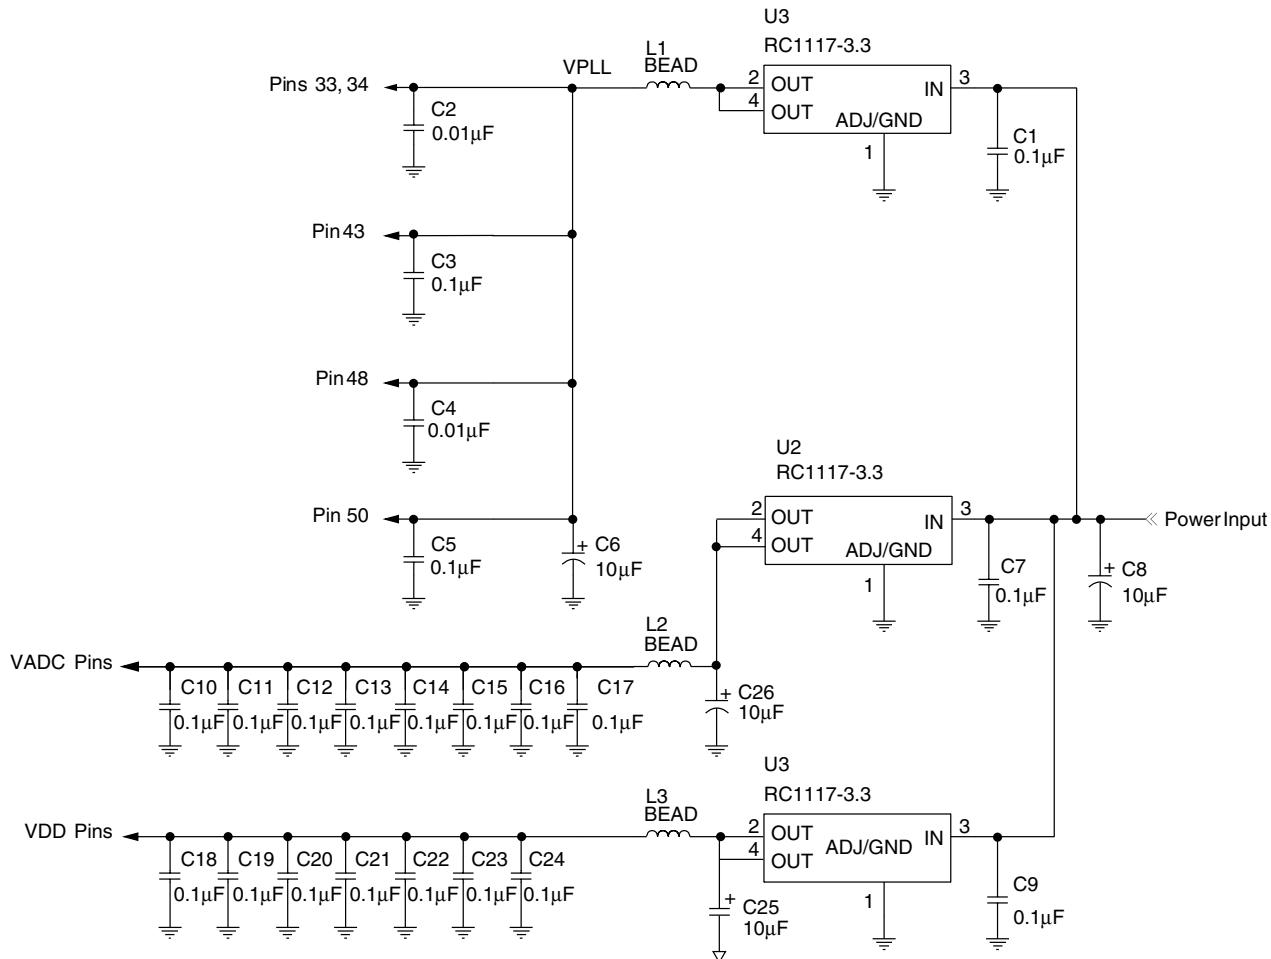

Figure 31. Recommended Power Distribution
A schematic of the recommended power distribution is shown in Figure 31. Note that:
3. Each  $V_{DDP}/GND$  pin pair: 33&34/35, 43/42, 48/47, and 50/49 should be decoupled with a 100–1000p/10 $\mu$ F pair of capacitors (see Figure 31). If board space is limited, use as many capacitor pairs as possible.